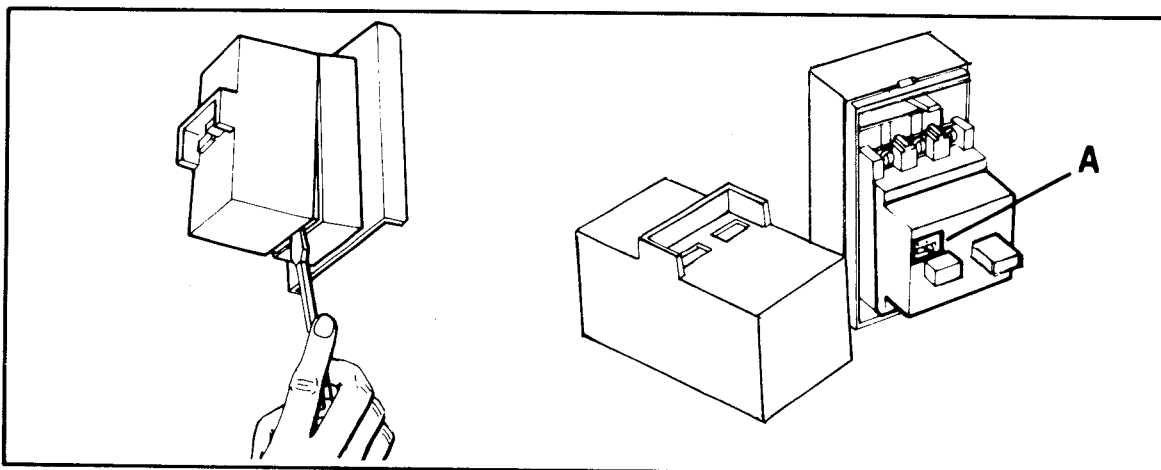

FIGURE 23
The Case Sealer is equipped with a circuit breaker which trips the "On-Off" switch to "OFF" position. Located inside the electrical control box on the side of the main frame just below the conveyor bed, the circuit breaker has been pre-set for 5 amps and requires no further maintenance. Should the circuit breaker be replaced, check the amp setting before installation. Remove the front cover on the electrical box from the under side as shown in figure 23 and set the amp setting (A) at 5 amps.